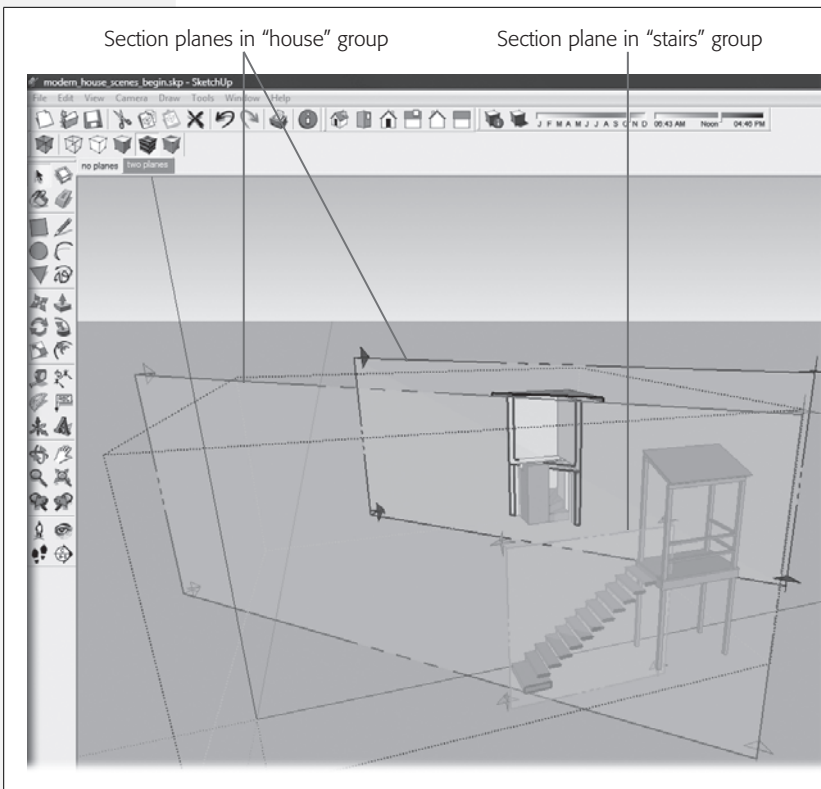

Figure 12-21:
The easiest way to create a second section plane inside of a group is to duplicate the first one. Select the section plane; then, using the Move (M) tool, press the Ctrl (Option) key. That puts the Move tool in copy mode. When you move the cursor, you see the small Section Plane icon. Click a new position, and SketchUp creates the second section plane, as shown in Figure 12-21.